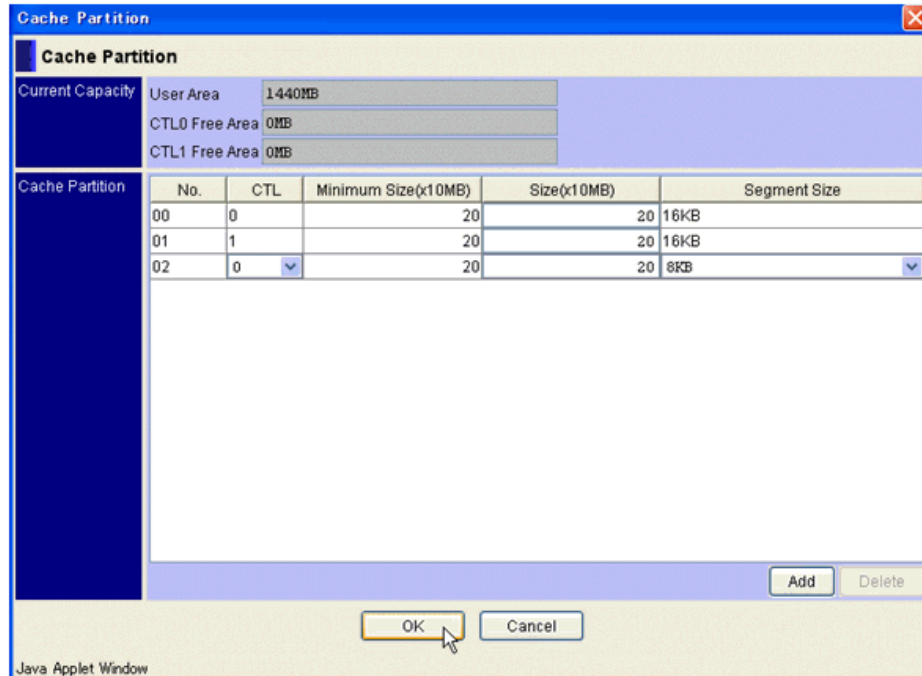

Figure 5-2: Cache Partition Dialog Box
- Click **Set**. The Cache Partition dialog box appears, as shown in Figure 5-2.
- Click **Set**. The Cache Partition dialog box appears, as shown in Figure 5-2 on page 5-18.
6. Click **Set**. The Cache Partition dialog box appears, as shown in Figure 5-2 on page 5-18.